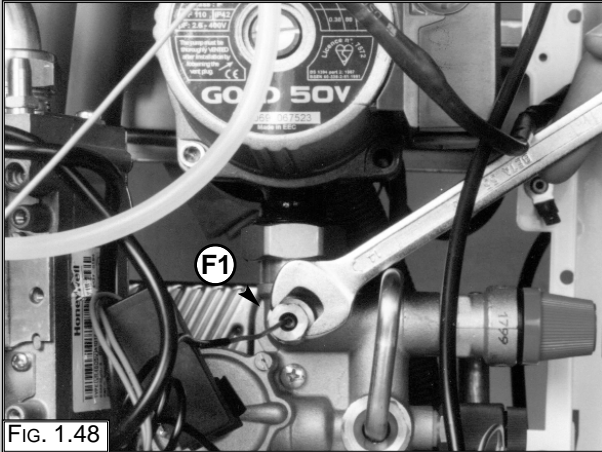

FIG. 1.48
1. Release coupling "F1" (FIG. 1.48);